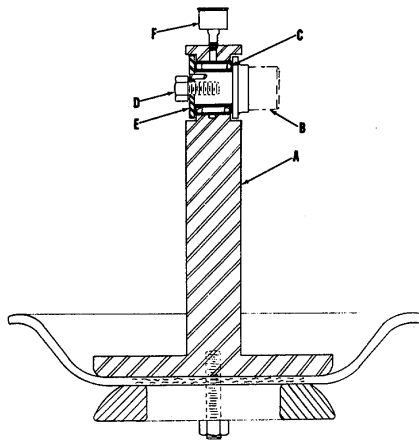

FIGURE 5
- B. Remove two brass nuts with washers (R) and two brass machine screws (K). Washer (L) and weight (P) may be pulled off rubber flap valve (N).
- C. Replace flap valve (N). Assemble items (K) thru (R) and place on pump body over the studs. Place valve body on pump over studs and secure with the 5/8 " hex nuts.
21. Connecting Rod Needle Bearing Repair (Fig. 5)
Reference for Fig. 5